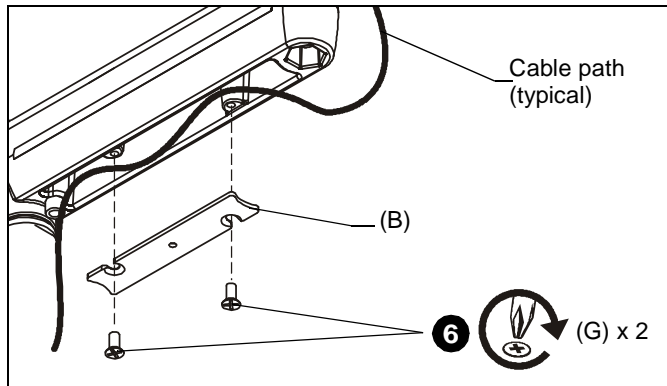

Figure 8
**NOTE:** If necessary, cable management bracket attach screws may be tightened using 3/16" hex key (K).
5. Carefully insert cables into cavity located in lower portion of mount arm. (See Figure 8)
6. Install cable management cover (B) using two #8-32 x 3/8" Phillips flat head screws (G). (See Figure 8)